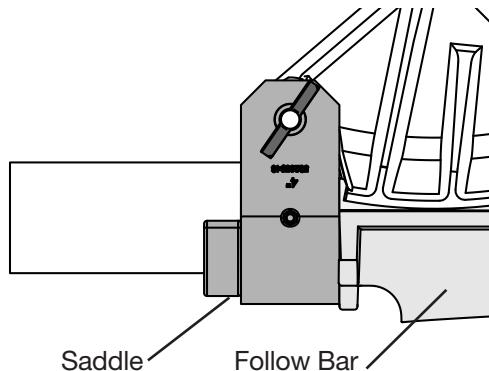

Figure 12
18. Adjust the saddle and shoe so the back edge contacts the follow bar. (Fig.12)